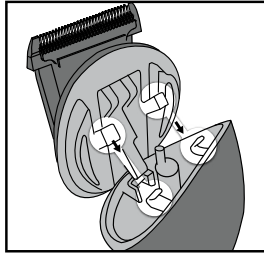

Fig. 2.
- Then line up the two front prongs of the attachment head with the two metal clips on the handle (Fig. 2).